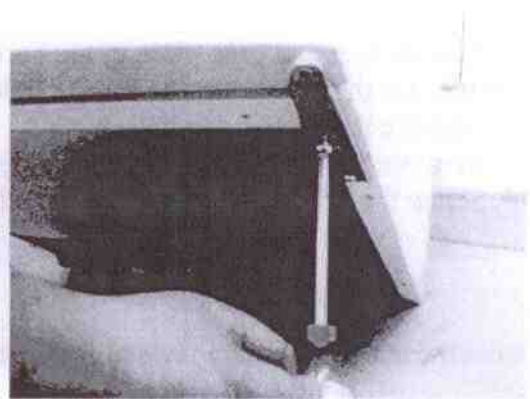

Figure 3
3. Remove the screws from the hinge (figure 3) and remove hinge.